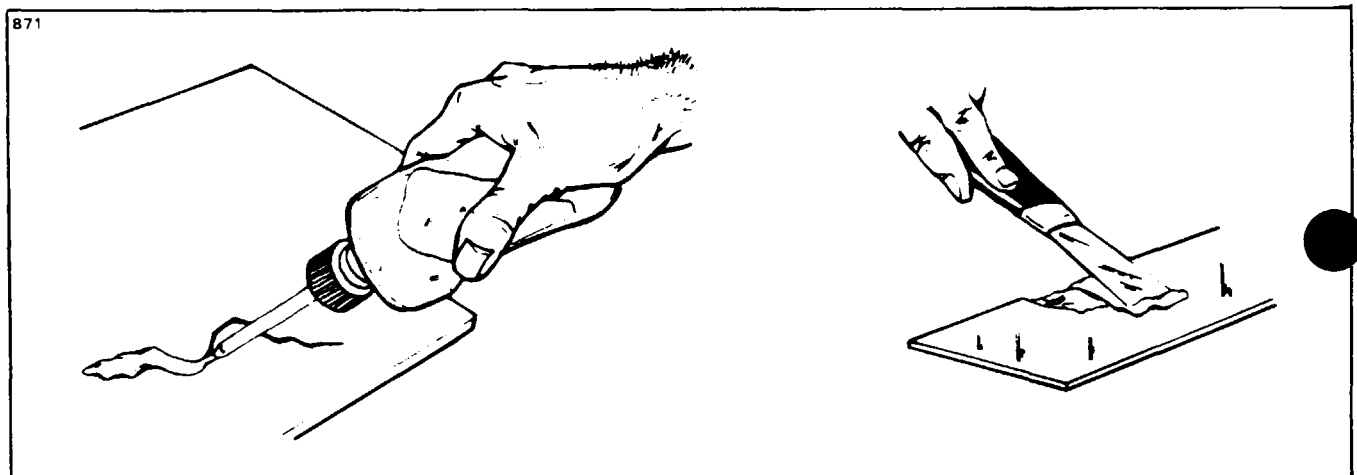

Figure 4-11. Mixing of Epoxy Patching Compound
F. The patching compound is mixed in equal portions on a hard flat surface using a figure eight motion. The damaged area is cleaned with perchlorethylene or VM&P Naptha prior to applying the compound. (Refer to Figure 4-11.)